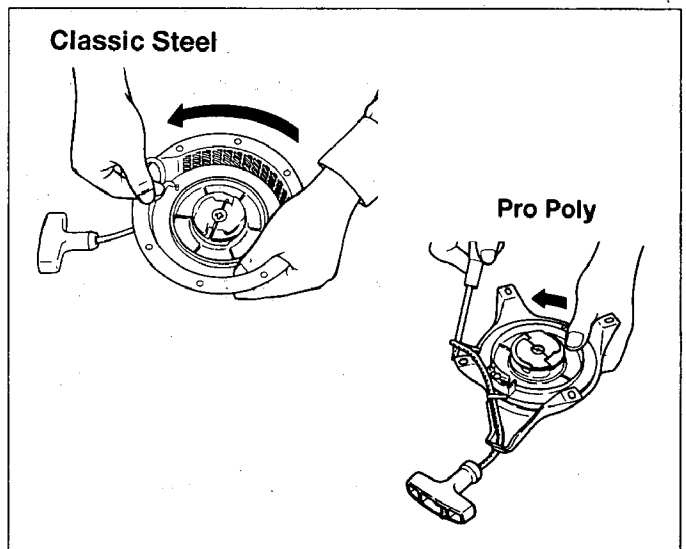

Fig. 9-8
- (5) Hold starter rope as shown in Fig. 9-8 and turn reel 4 times in the arrowhead direction.